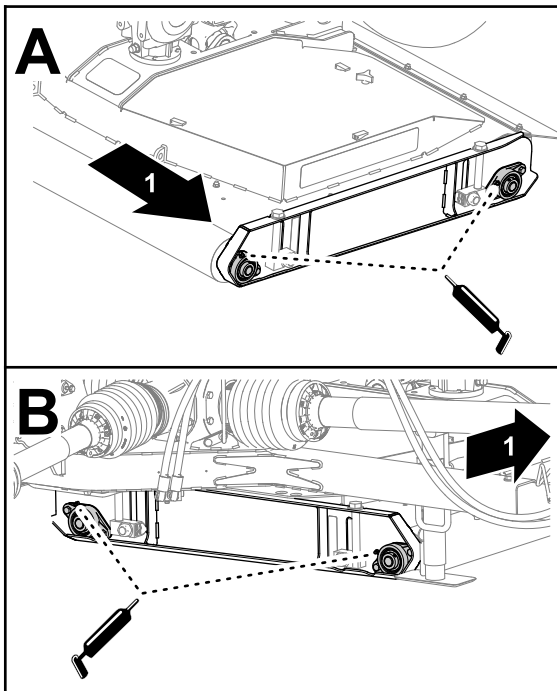

Figure 50
1. Apply the specified grease the deck roller bearings at the left side of the deck (Figure 50).
2. Grease the deck roller bearings at the right side of the deck (Figure 50).